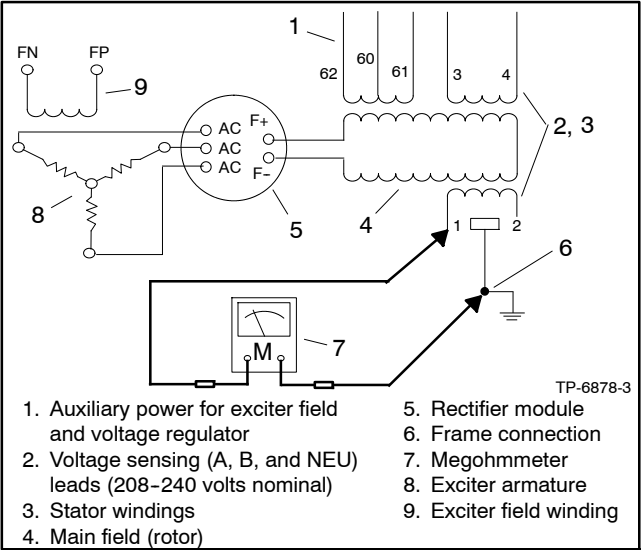
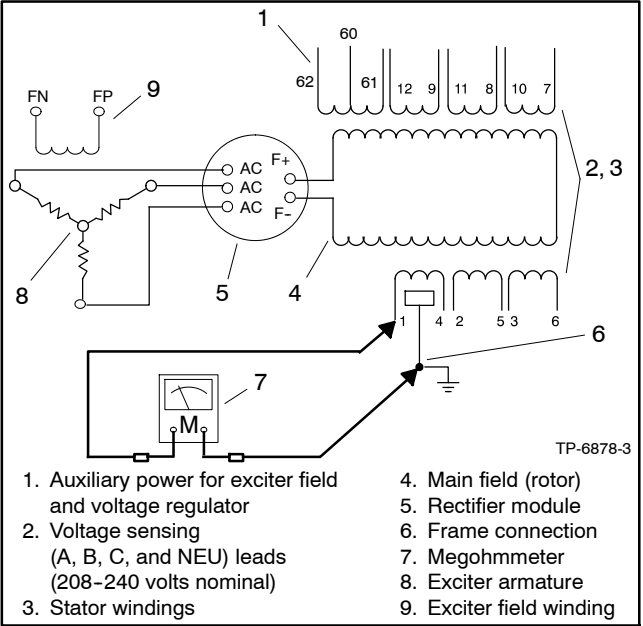

Figure 3-14 Megohmmeter Connections on Stator (Single Phase)
Figure 3-15 Megohmmeter Connections on Stator (Three Phase)
6. Check the stator for a short-to-ground condition using a megohmmeter. See Figure 3-14 for a single-phase megohmmeter connections and Figure 3-15 for three-phase megohmmeter connections.